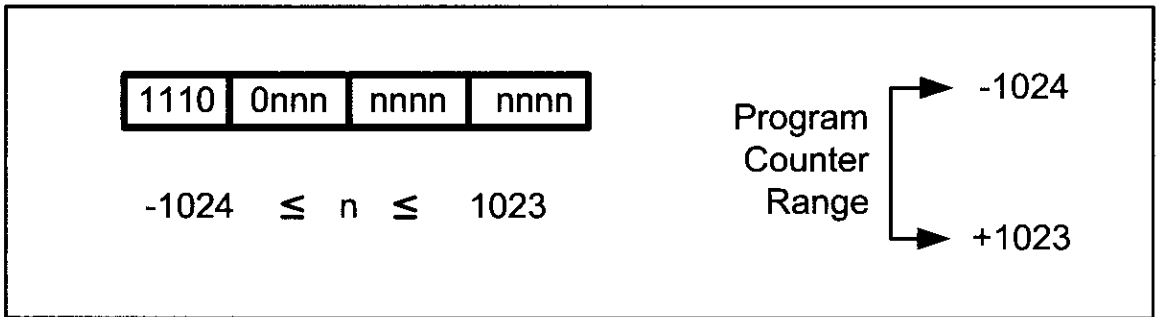

Figure 3-5. BRA (Branch Unconditionally) Instruction Address Range
-1024 to +1023 bytes of memory relative to the address of the current PC (program counter). If the jump is forward, then the target address is positive. If the jump is backward, then the target address is negative. In this regard, BRA is like the conditional branch instructions except that 11 bits are used for the offset address instead of 8. This is shown in detail in Figure 3-5.